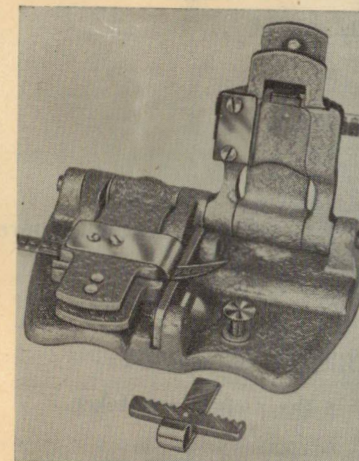

Fig. 14
4. Place other film to be spliced on registration pins on lower left arm, emulsion side up and clamp with left arm. (see Fig. 14)